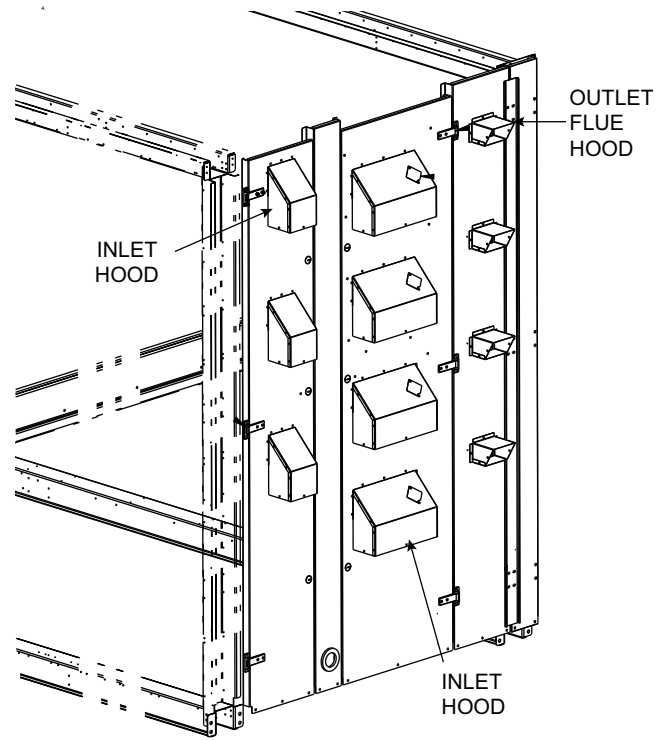

Fig. 44 — Flue/Inlet Hood Locations
The hoods are to be installed on the heating section access panel as shown in Fig. 44. See Table 9 for a list of parts used to assemble each hood and quantities of each hood type used with each unit.
2. Attach flue outlet hoods (see Fig. 44) to access panel using screws provided. Hoods are placed over each combustion outlet.